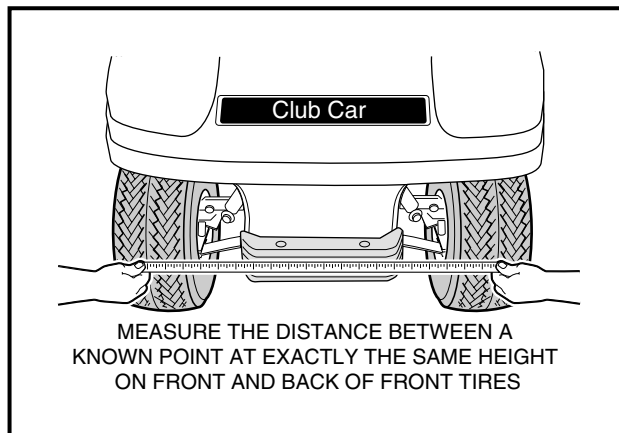

Figure 7-18 Check Toe-In
3. Measure the distance between the marks on the rear-facing surfaces of the tires, and then roll the vehicle forward one and one-half wheel revolutions until the marks appear on the forward facing surfaces of the tires at about the same height from the floor (**Figure 7-18, Page 7-15**).